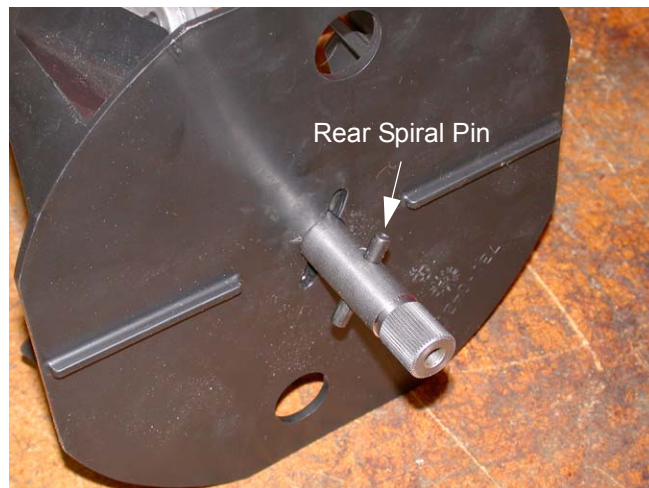

Figure 13.4
- 13.4. Using a 3/16 punch and hammer, remove the rear spiral pin. See Figure 13.4.